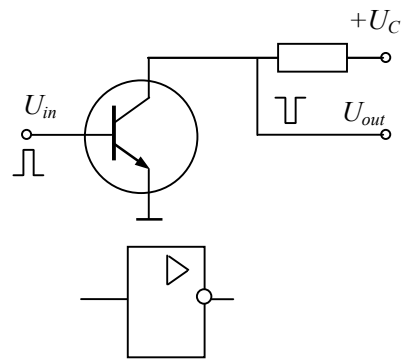

Fig. 2.59
**NOT gate.** In Fig. 2.59, the transistor operates as a *NOT gate* or *inhibitor circuit* because its output is opposite to the input signal. This component inverts, or complements the input signal thus it often is called inverter. If the input is high, the output is low, and vice versa. The symbol of the NOT gate is shown in Fig. 2.59 also. The truth table of the *NOT* gate is stated above. The logical equation of the gate is as follows: